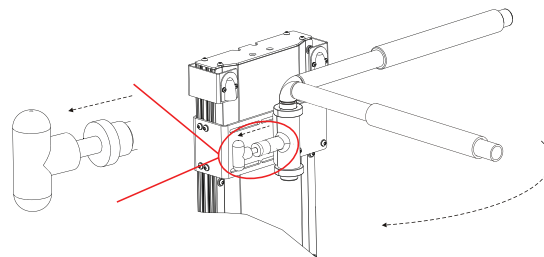

Figure 3-10
2. The hold-down arm can be rotated over the center of the seat. Pull the T-handle and rotate the arm to the desired position. Release the T-handle to lock in place. *See Figure 3-10.*